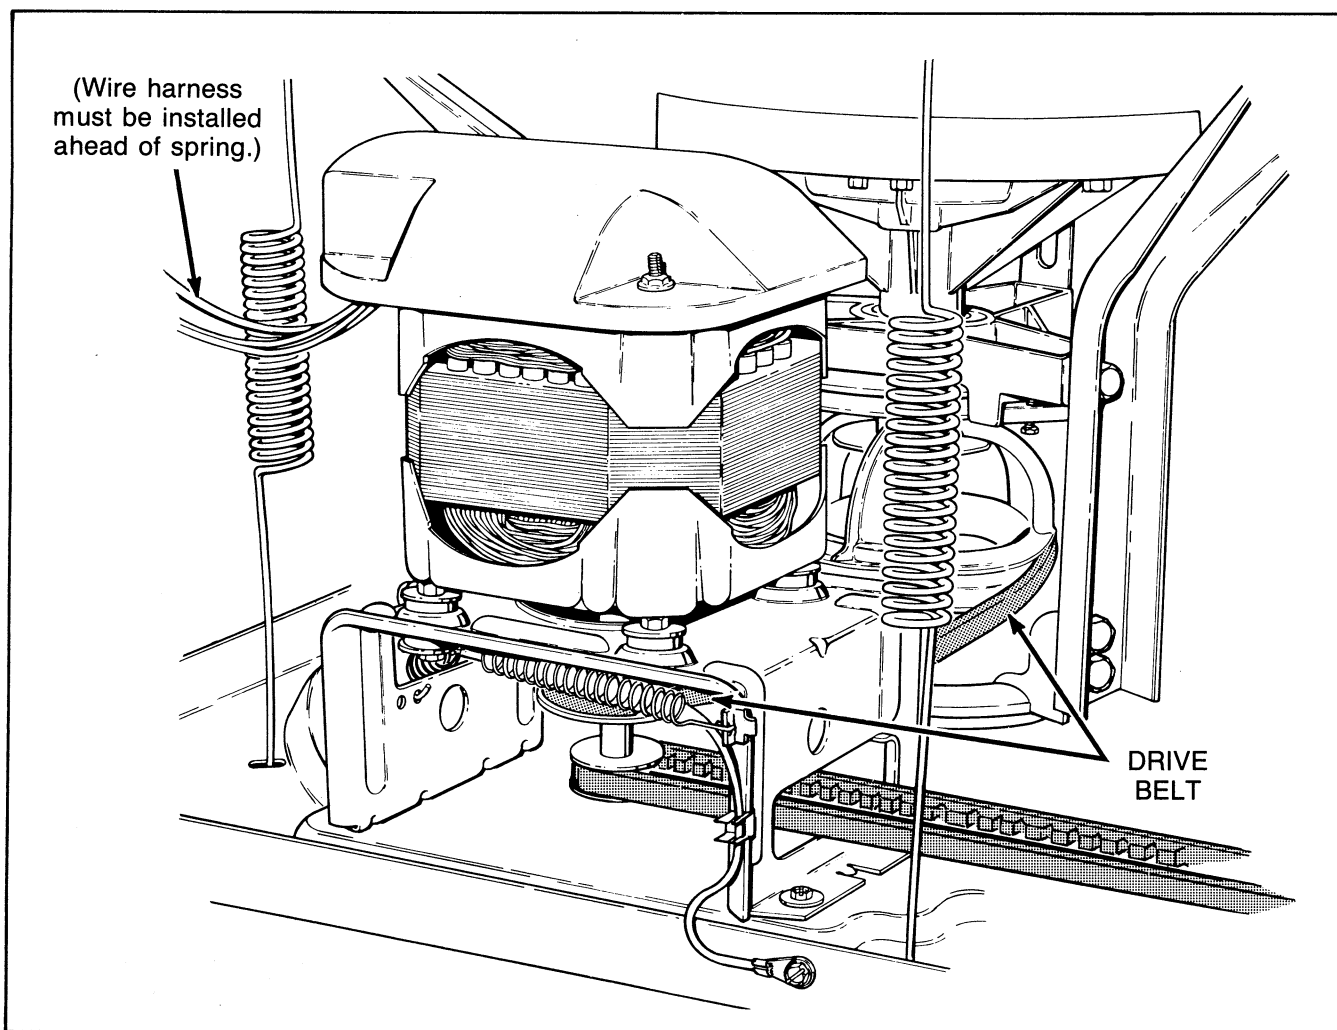

Figure 16
- f. While holding idler lever, reach in and around right side of motor and run belt off right side of large drive pulley, *Figure 16*.